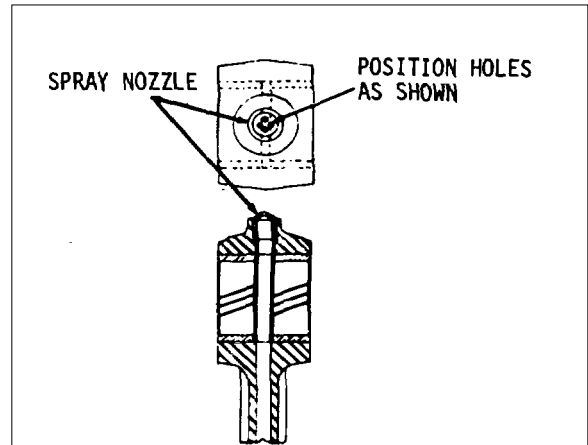

Fig. 7
- (1) Start the new spray nozzle, with the holes positioned as shown in Fig.7, straight into the counterbore in the connecting rod.
- (2) Support the connecting rod in the arbor press, place a short 3/8" I. D. sleeve on top of the nozzle and press the nozzle into the connecting rod until it bottoms in the counterbore.
- (3) Install new bushings in the connecting rod.